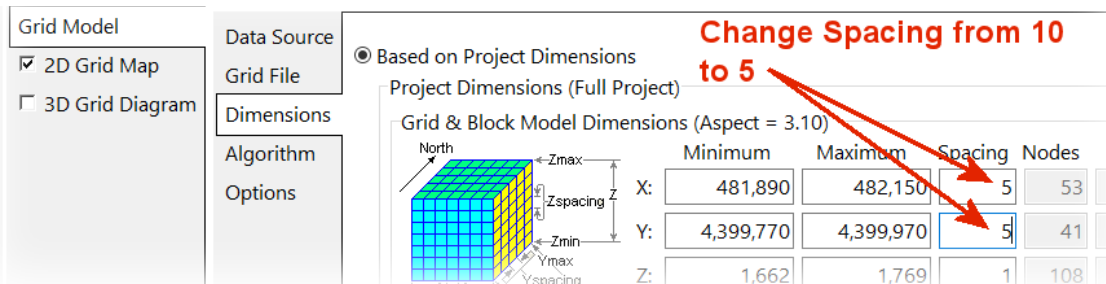

Figure 33
- Click on the *Dimensions* tab and change the X and Y spacing from 10 to 5 (Figure 33). This will decrease the size of the grid cells which will produce a more aesthetically-pleasing contour map.